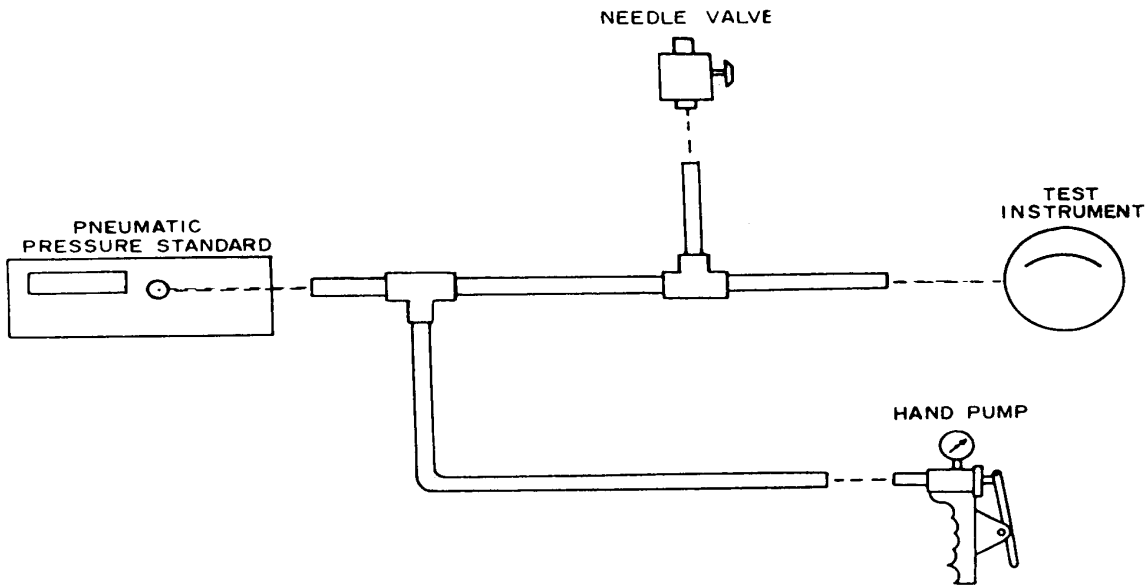

Figure 1. Pressure or vacuum - equipment setup.
(1) Connect equipment as shown in figure 1. Connect for pressure or vacuum as desired.
(2) Close needle valve.